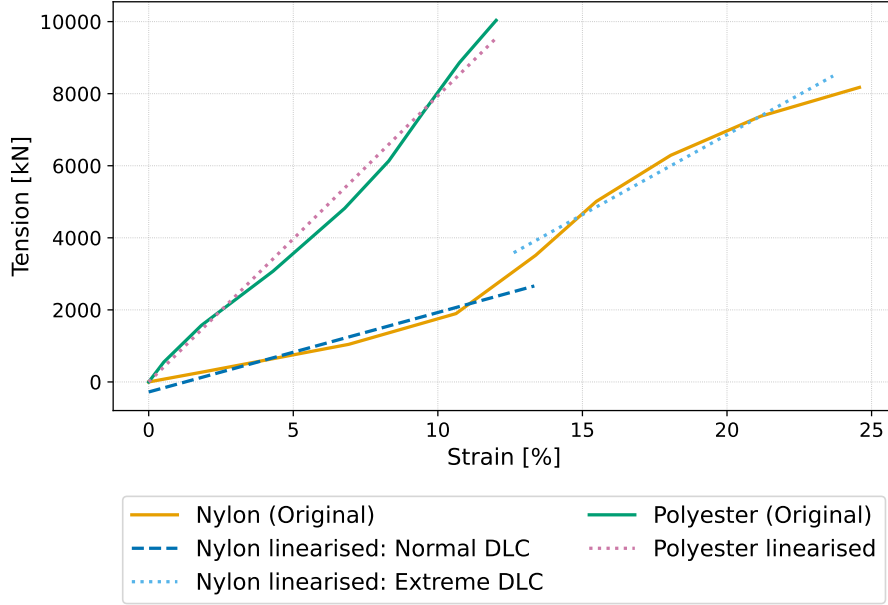

Figure 3: Representative linear stiffness choices used as SST inputs. DLC = Design Load Case.
1. **Choose stiffness inputs** (see Figure 3). For polyester-based lines, use a *single* linear stiffness. For nylon-based lines, use *DLC-specific* linear stiffness values to get two solutions, each for different testing conditions.